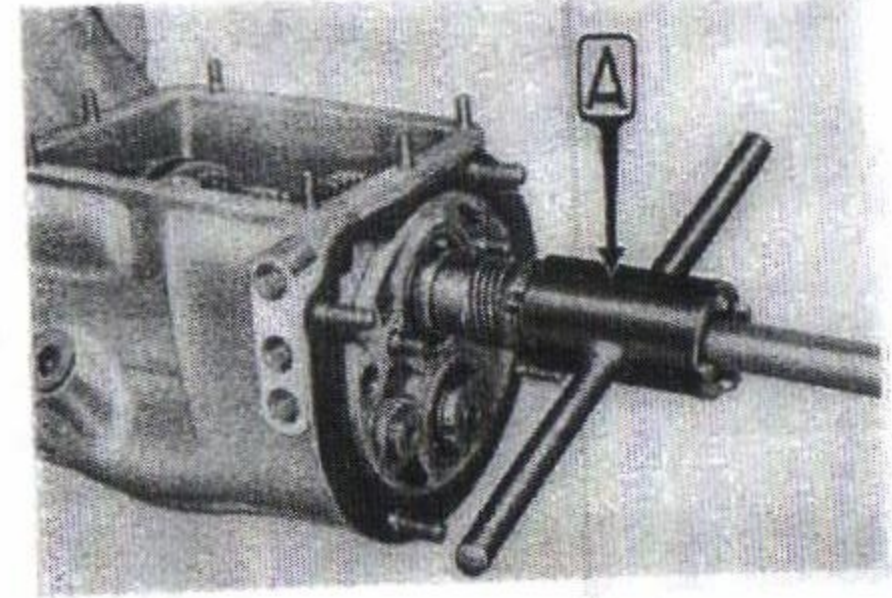

Fig. 59.
Unscrew by means of the wrench A. 8066 (Fig. 59) the lock ring (4), on the primary shaft after having straightened out the lock plate (5). Then pull out the speedometer driving pinion (6), taking care of the tiny lock key. Pull out also the lock ring (7).